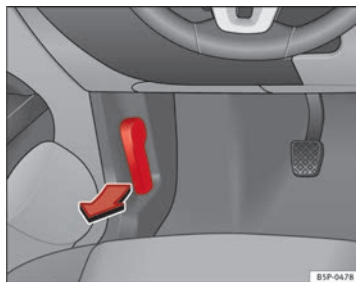

Fig. 164 Detail of footwell area on driver side: lever for unlocking the bonnet.
- To release the bonnet, pull the lever under the dash panel ⇒ Fig. 164 in the direction indicated (arrow). The bonnet will be released by a spring action ⇒ Δ.